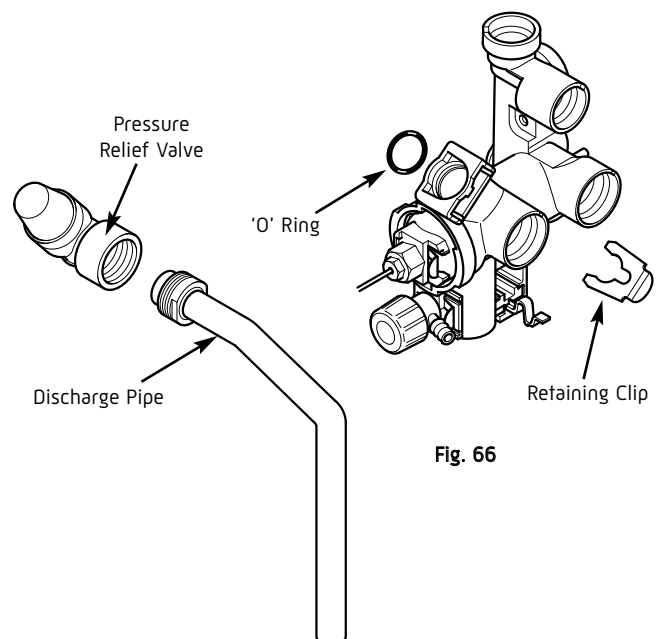

Fig. 66
2. Disconnect the discharge pipe from the valve. Ease off the retaining clip (Fig. 66).